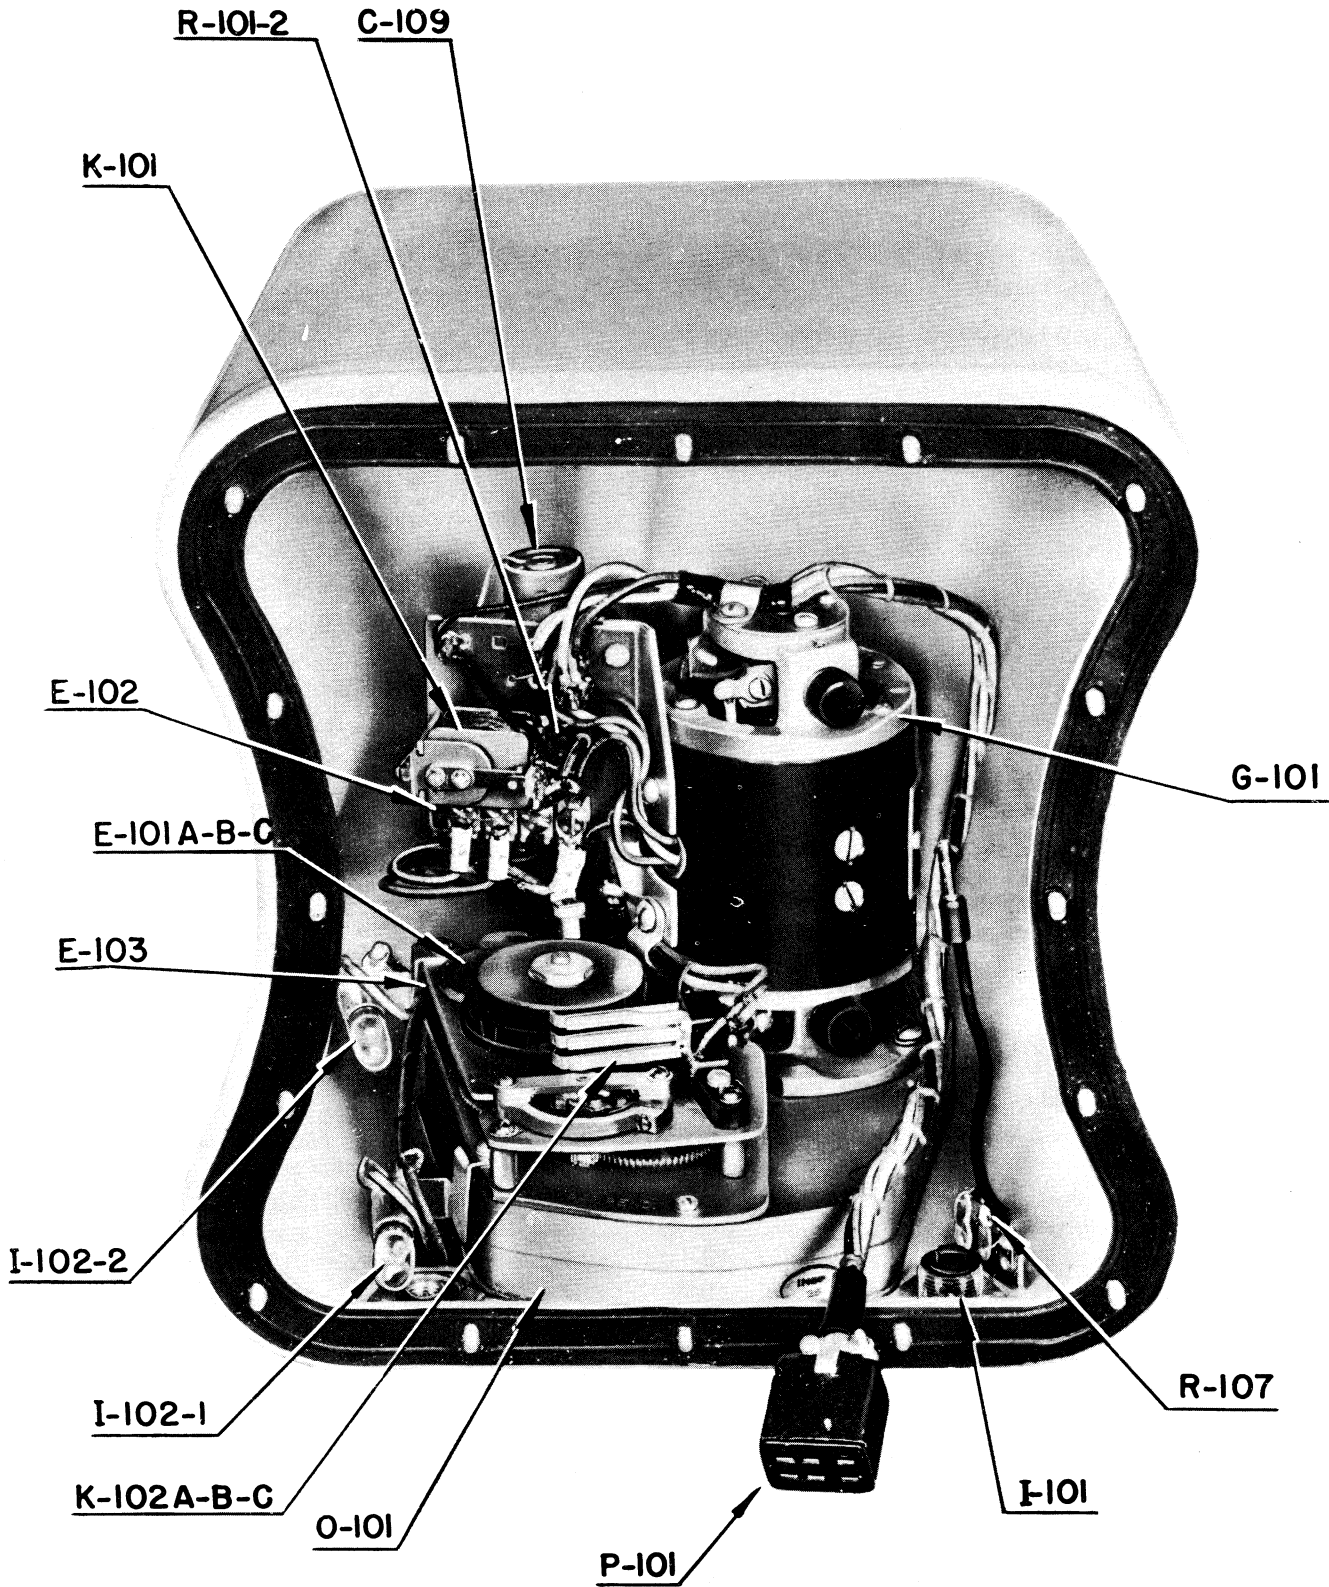

Figure 21—Radio Transmitter BC-778-B, BC-778-C, BC-778-D or BC-778-E, Parts Layout of the Cabinet
*a.* The crank fits into a socket in the main driving gear within the main gear-train assembly. This main driving gear actuates an assembly of two gears, which in turn drives a fourth gear. This gear train provides the step-up ratio necessary to drive generator G-101. (See figs. 21, 22 and 23.)
*b.* At the end of the main driving gear shaft opposite the crank socket is a second socket which fits into a projection on the clutch shaft of the governor gear-train assembly. The clutch drives the first gear by friction, and this in turn actuates (1) a gear train which provides a step-up ratio for the governor and (2) a gear which provides a step-down ratio for code wheel E-101A, E-101B and E-101C. A gear train driven by the shaft of the code wheel in turn provides a further step-down ratio for cam E-103.